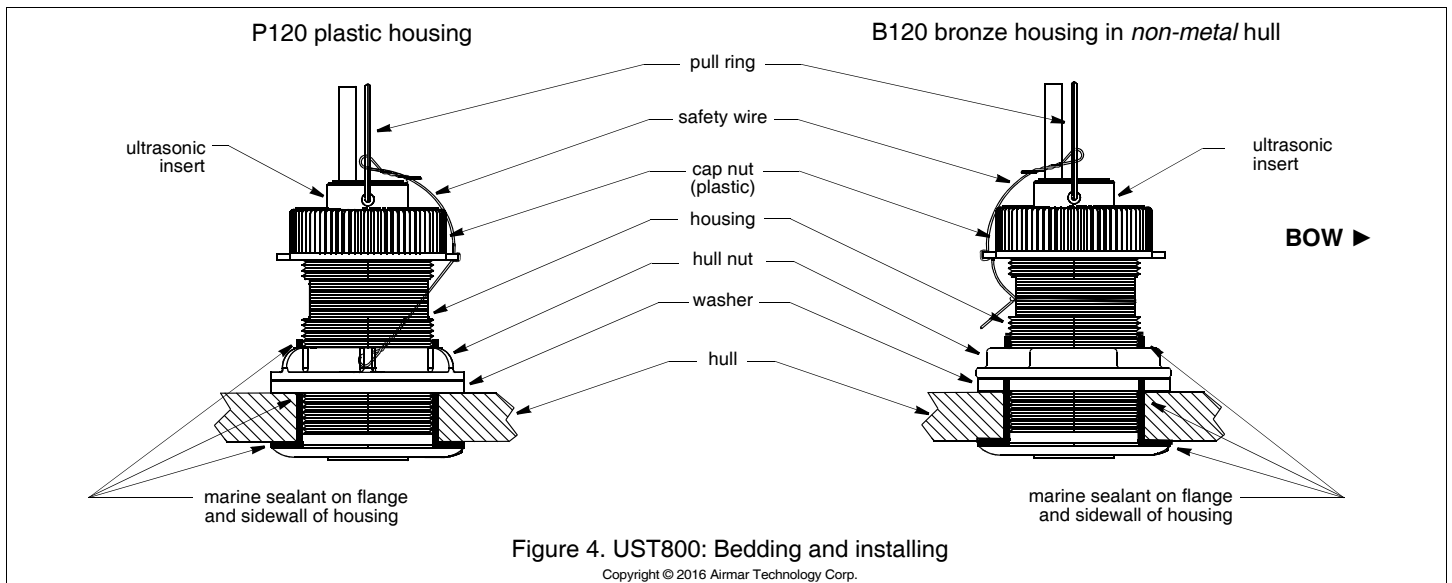

Figure 4. UST800: Bedding and installing
Apply a 2mm (1/16") thick layer of marine sealant around the flange of the housing that contacts the hull and up the sidewalls of the housing (Figure 4 or 5). *The sealant must extend 6mm (1/4") higher than the combined thickness of the hull, washer, and hull nut.* This will ensure there is sealant in the threads to seal the hull and to hold the hull nut securely in place.
1. From outside the hull, push the housing into the mounting hole using a twisting motion to squeeze out excess sealant (Figure 4 or 5). *Align the arrow on the flange of the housing pointing forward toward the bow.* If the sensor is not installed on the centerline, angle the housing slightly toward the centerline to align it with the water flow.
UST800 (Figure 4)
1. Remove the ultrasonic insert from the housing by removing the safety wire from the pull ring and the cap nut. Unscrew the cap nut (Figure 4).
4. Reattach the safety wire to prevent the blanking plug from backing out in the unlikely event that the cap nut fails or is screwed on incorrectly (Figure 4).
- Remove the ultrasonic insert from the housing (Figure 4).
- Slide the blanking plug into the housing. Seat it into place with a pushing twisting motion until the key fits into the notch in the housing. **Hand tighten** the cap nut. Do not over tighten. Reattach the safety wire (Figure 4).
- Reattach the safety wire to prevent the ultrasonic insert/blanking plug from backing out in the unlikely event that the cap nut fails or is screwed on incorrectly (Figure 4).